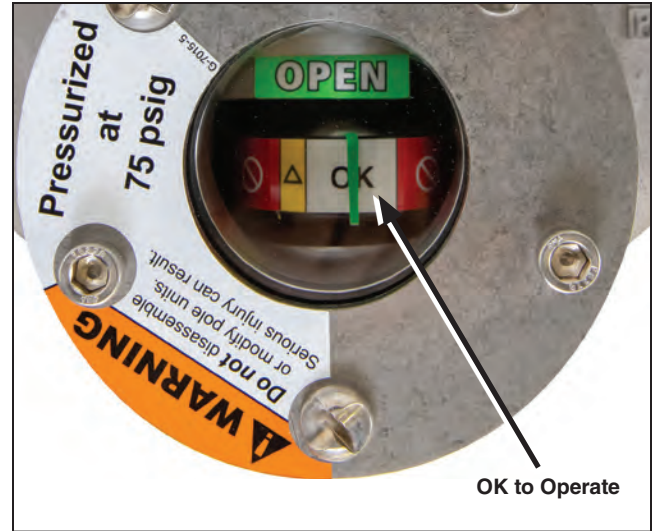

Figure 75. Interrupter gas-pressure gauge in the OK to Operate zone.
**STEP 3.** Verify the interrupters are in the **Open** position and the gas pressure gauge on the underside of the interrupter is in the Ok To Operate zone. See Figure 75 on page 47.